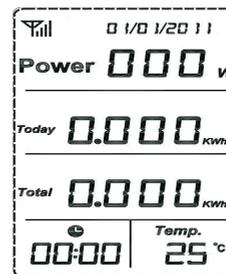
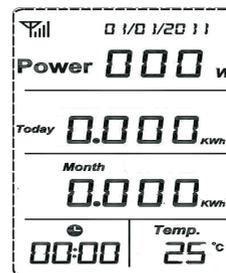
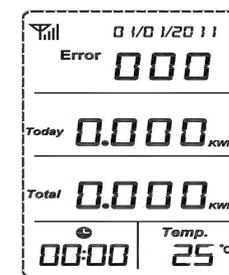

Figure 17
Figure 20
Figure 26
The second line indicates the generated energy, generation revenue and CO2 emissions on the day. The three data are displayed once every 5s in cycle. The sequence of display in cycle is generated energy, generation revenue and then CO2 emissions, as shown in Figure 17 to 19.
There are two modes in the third line, one showing the generated energy, generation revenue and CO2 emissions in the month and the other showing the total generated energy, total generation revenue and total CO2 emissions. Two modes are divided into six interfaces and each interface is displayed after every 5s in cycle, as shown in Figure 17 to 22. The means of display in cycle is Today-Total-Today-Month. Press "OK" for a short while in the default interface, you will enter the enquiry of daily, monthly and total data. When entering the enquiry interface, the historical daily and total data will be displayed, as shown in Figure 17. Then, press "Down" for a short while for enquiry of generated energy, generation revenue and CO2 emissions from Today to Total in sequence, as shown in Figure 17 to 19, and for enquiry of generated energy, generation revenue and CO2 emissions from Today to Month in sequence, as shown in Figure 20 to 22. Or press "Up" for a short whole, and you will see the enquiry results in the opposite direction. The default interface will appear by pressing "OK" for a short while in any interface of enquiry or when there is no operation of enquiry at all in 30s.
3. There are two modes in the third line. The first is to show the actual accumulated generated energy, generation revenue and CO2 emissions by all photovoltaic inverters in the month, as shown in Figure 20 to 22; the second is to show the actual accumulated electric energy, generation revenue and CO2 emissions by all photovoltaic inverters. The two modes are divided into six interfaces and each interface is displayed once every 5s and in cycle, as shown in Figure 17 to 22. The sequence of cycle is from Total to Month.
Notes: When the monitor receives error information of photovoltaic inverters, the first line will display "Error" and its relevant wrong code (supposing 000). Meanwhile, the buzzer will alarm twice every five minutes (if the buzzer is set opened), as shown in Figure 26 and the LEC lamp will flash once every second. The display results of the second and third lines must be corresponding to each other. It means when the second line displays generated energy on the day, the third line must display the total generated energy or generated energy of the month at the same time. The data must be displayed correspondingly and in cycle and the means of display in cycle is Today-Total and Today-Month, as shown in Figure 17 to 22.